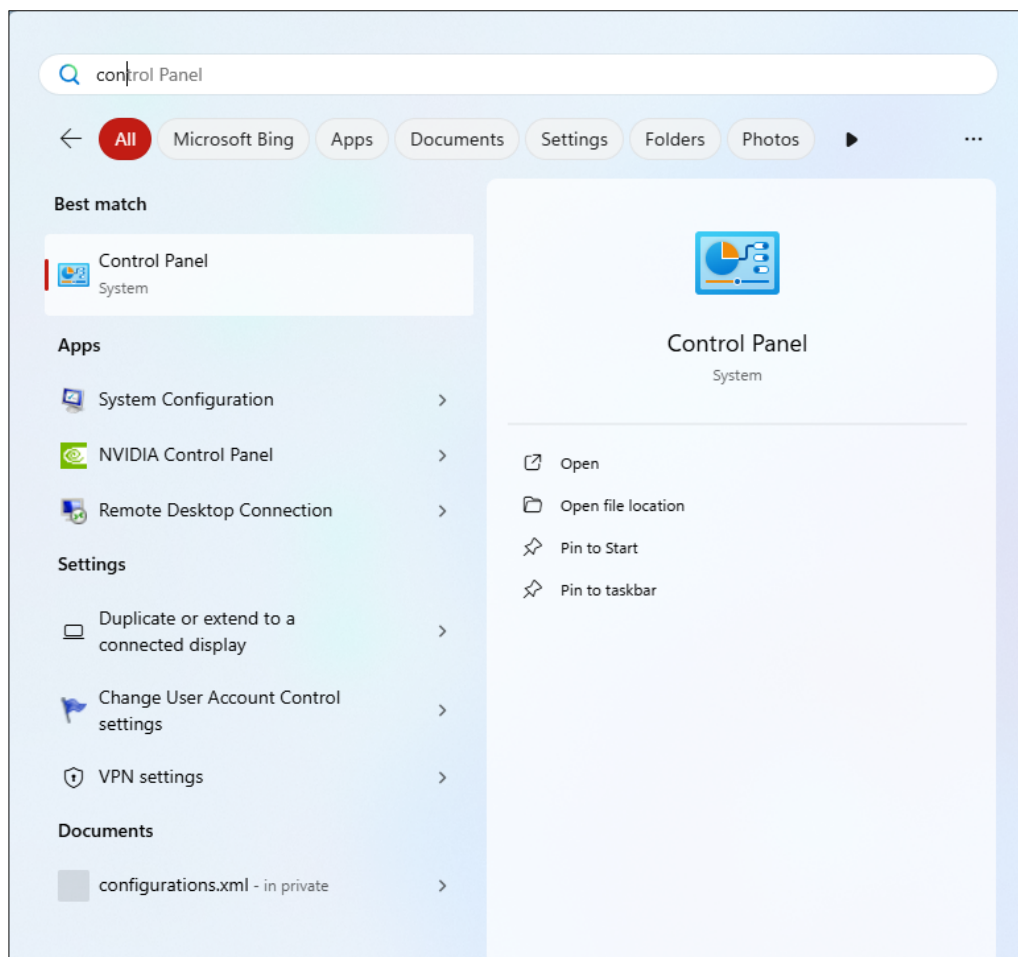

Figure 28: Invoking the *“Control Panel”* from the *“Start”*.
- 1 Open legacy *“Control Panel”* dialogue (see Fig. 28),